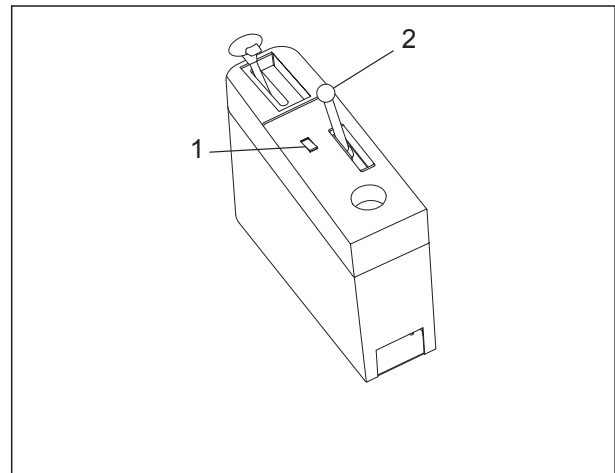

Fig 3.11
Refer to Fig3-11, this truck is equipped with two retarders: the transmission retarder and the rear disk brake retarder. The handle (2) is used to control the rear disk brake retarder. The transmission retarder switch (1) is used to control the transmission retarder.